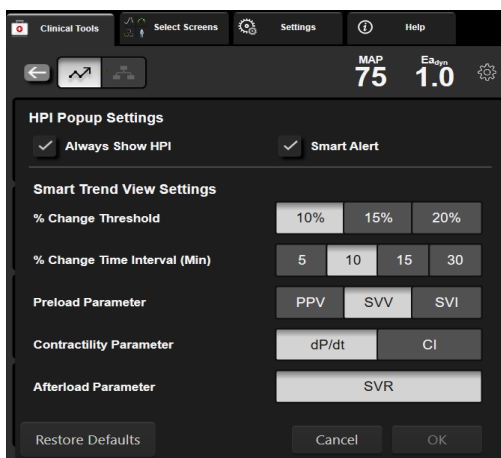

Figure 14-9 HPI secondary screen – smart trend view settings
- 3 Disable the **Always Show HPI** option button. See figure 14-9 on page 250.